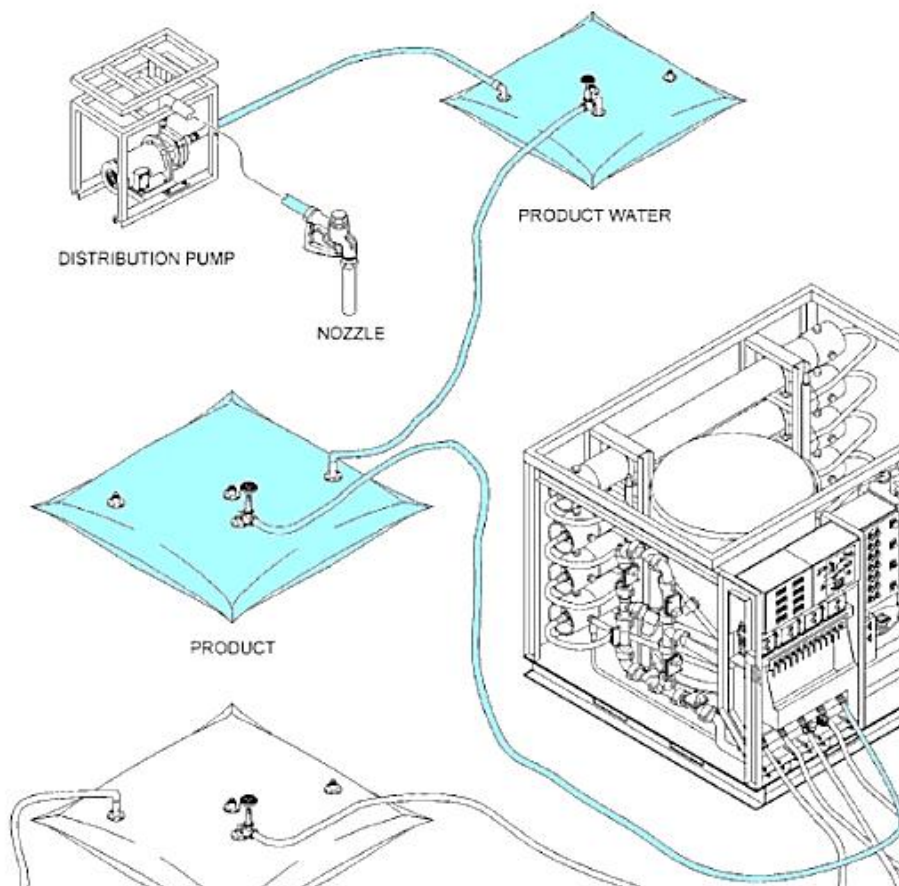

Figure 1-40. Product water system.
The most important sub-system set up of the ROWPU is the product water system set up. Since the product water system will contain purified water when set up, you must be very careful to make sure no components become unsanitary during the setup process. Set up the product water system as illustrated in figure 1-40. The hoses on the product water system will have a blue stripe running the length of the hose. Do not use any hoses without the blue stripe for the product water system. Proceed to set up the product water system using the following steps:
3. Connect 2" female × 1½" male adapters to both product water tanks as shown in figure 1-40.